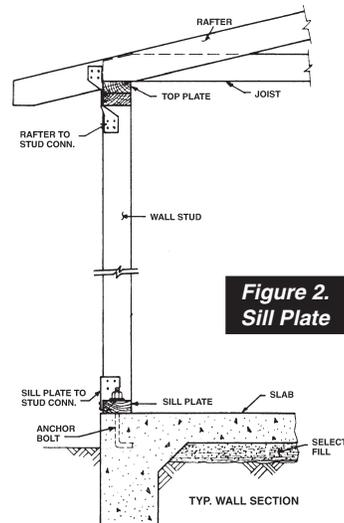

Figure 2. Sill Plate
- Sill Plate.** Are sill plates (Figure 2) securely attached to the foundation by anchor bolts (or metal straps in pile foundations) to resist uplift and lateral forces caused by DWV?